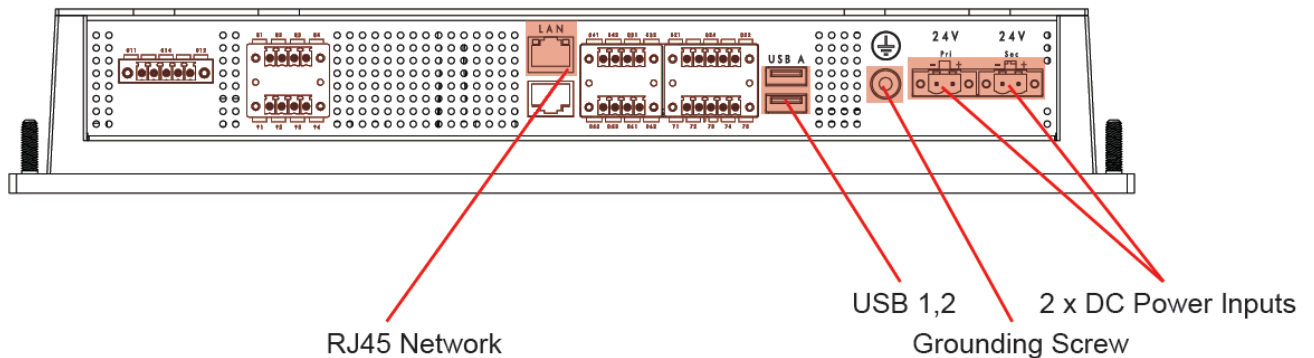

Figure 4 – TSM1330 Interface Connector Panel
The external I/O interface connector panel is shown in Figure 4.
Step 1: Locate the USB connectors. The locations of the USB connectors are shown in Figure 4.